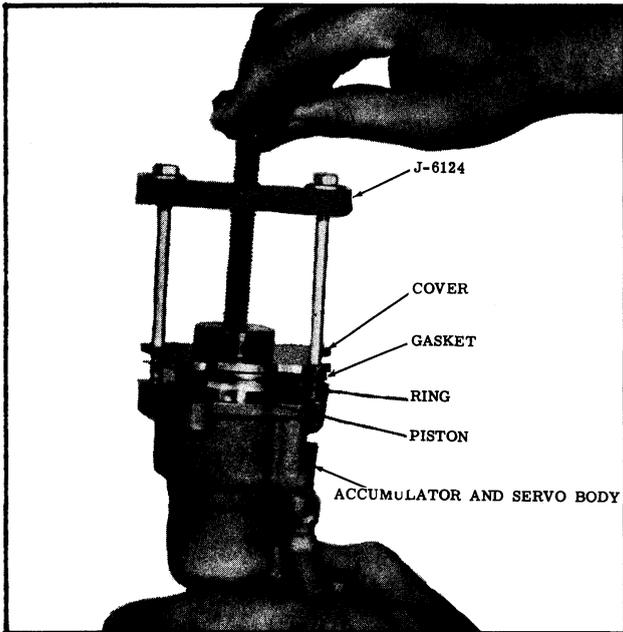

Fig. 3-115 Installing Accumulator Piston
7. Install tool with cover and gasket on the accumulator body. (See Fig. 3-115)